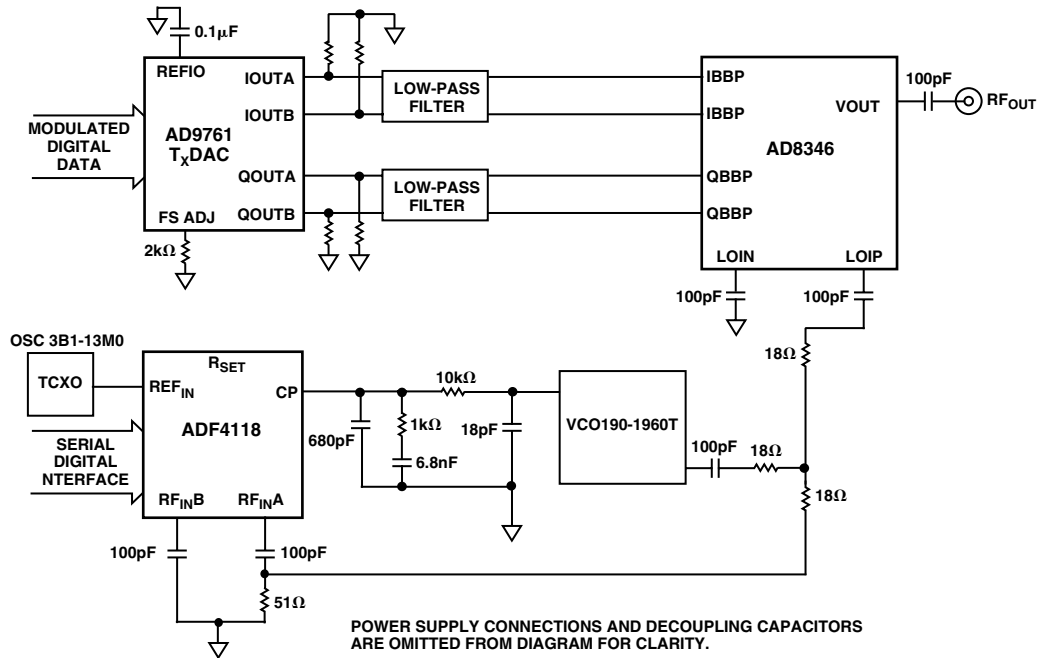

Figure 28. Direct Conversion Transmitter Solution
In some applications a direct conversion architecture can be used in base station transmitters. Figure 28 shows the combination available from ADI to implement this solution.
The Local Oscillator (LO) is implemented using the ADF4117/ADF4118. In this case, the OSC 3B1-13M0 provides the stable 13 MHz reference frequency. The system is designed for a 200 kHz channel spacing and an output center frequency of 1960 MHz. The target application is a WCDMA base station transmitter. Typical phase noise performance from this LO is  $-85\ \text{dBc/Hz}$  at a 1 kHz offset. The LO port of the AD8346 is driven in single-ended fashion. LOIN is ac-coupled to ground with the 100 pF capacitor and LOIP is driven through the ac-coupling capacitor from a  $50\ \Omega$  source. An LO drive level of between  $-6\ \text{dBm}$  and  $-12\ \text{dBm}$  is required. The circuit of Figure 28 gives a typical level of  $-8\ \text{dBm}$ .
The RF output is designed to drive a  $50\ \Omega$  load but must be ac-coupled as shown in Figure 28. If the I and Q inputs are driven in quadrature by 2 V p-p signals, the resulting output power will be around  $-10\ \text{dBm}$ .